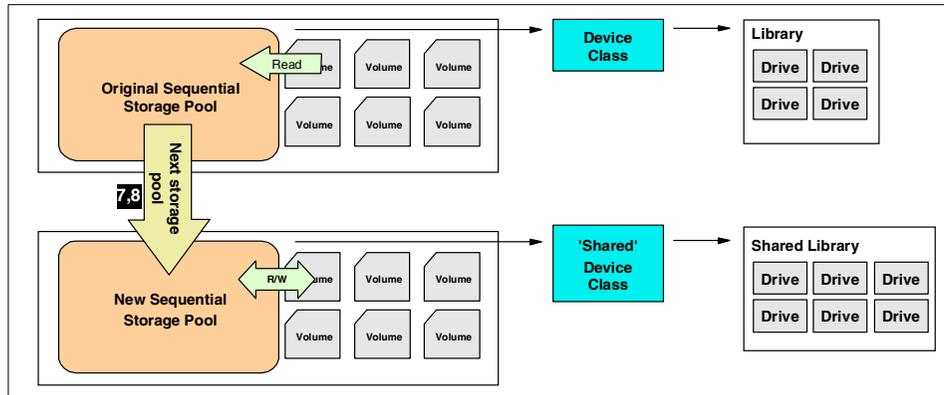

Figure 81. Moving data
4. After setting up the new storage definitions, it is now time to move the data from the original storage pools to the storage pools defined in the shared library. The steps in this section should be repeated for all storage pools that are moved (see Figure 81).
- a. Update the original storage pool, setting the newly defined one as its next pool (7), using the NEXTSTORAGEPOOL value.
- b. Set the HIGHMIG and LOWMIG values of the original storage pool to 0. This action will trigger a migration process, moving all data from the original pool to the pool in the shared library (8).